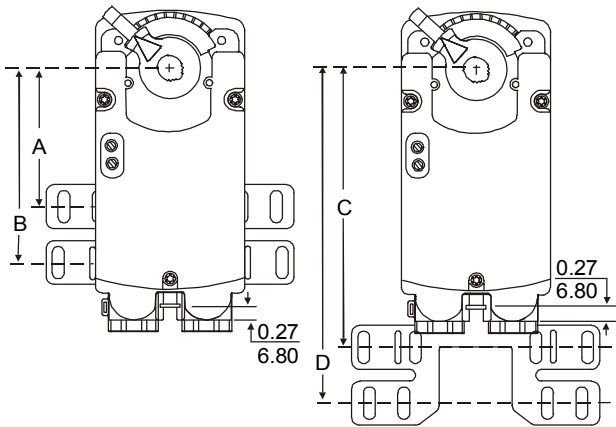

Figure 5: Mounting Positions, in/mm
4. Refer to the "A" through "D" dimensions in Figure 5 and Table 1 to ensure the anti-rotation bracket tab fits midway in the actuator slot.
- Use the anti-rotation bracket as a guide, and drill the holes in the damper frame or duct for the bracket (based on the measurements obtained in Figure 5 and Table 1).